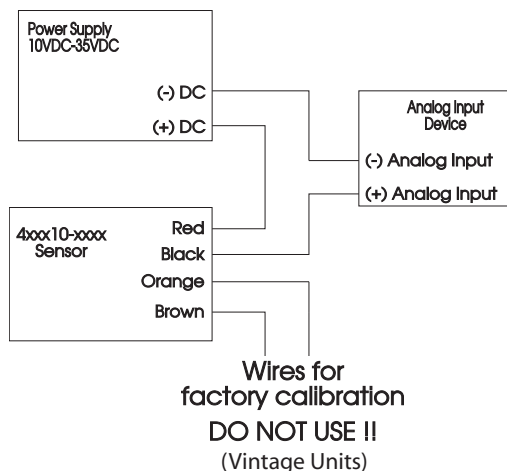

Figure 2: Wiring For Analog 4000
1. Refer to **Figure 2** for illustration of the following instructions.